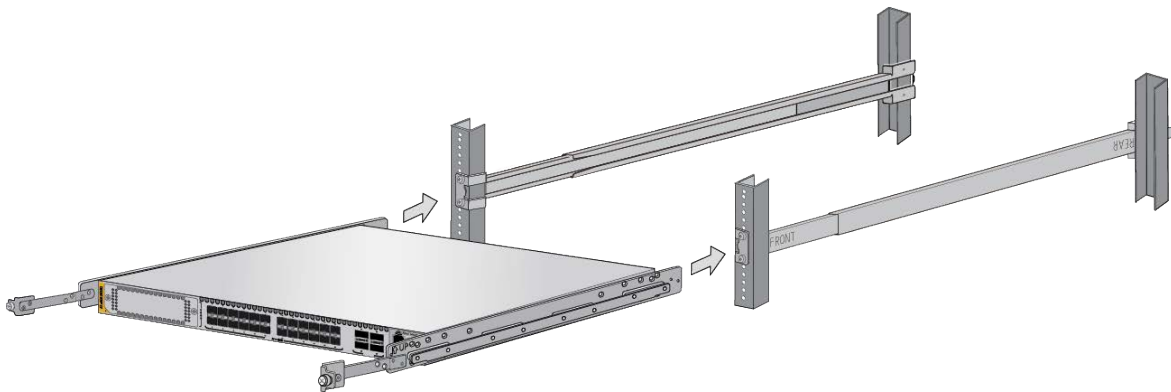

Figure 121. Sliding the Inner Rails on the Switch into the Outer Rails
1. Install the switch in the sliding rack by sliding the inner rails into the outer rail grooves. Refer to Figure 121.